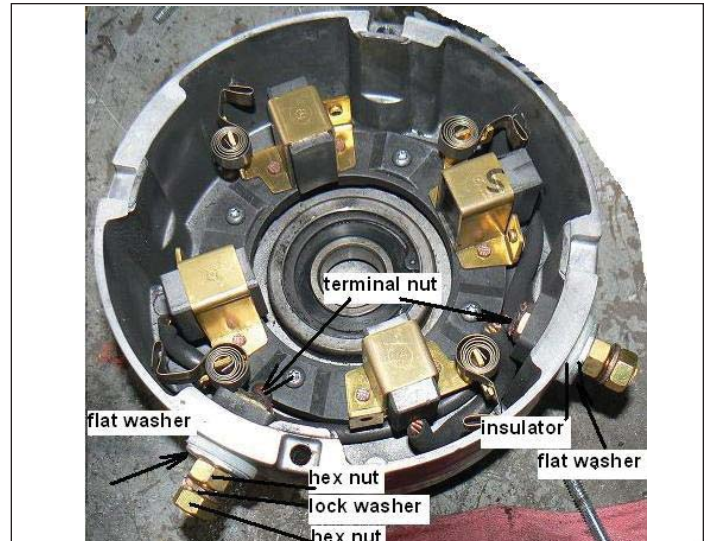

Figure 9-6. Brushes and Terminal Attaching Parts
- Remove 1 hex nut, 1 lock washer, 1 hex nut, 1f at washer and 1 insulator at each brush terminal, A1 and A2. Figure 9-6.